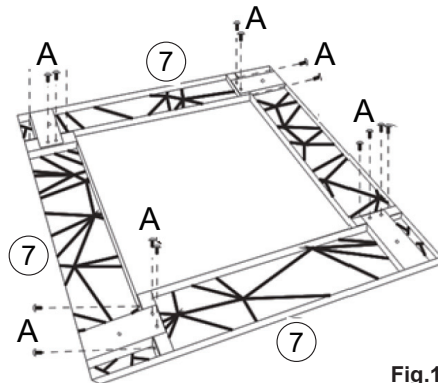

Fig.1
Place parts on a smooth even surface, Fix 4 pieces Top Frame (⑦) by using Bolt (A) into Square frame. (View Fig.1)